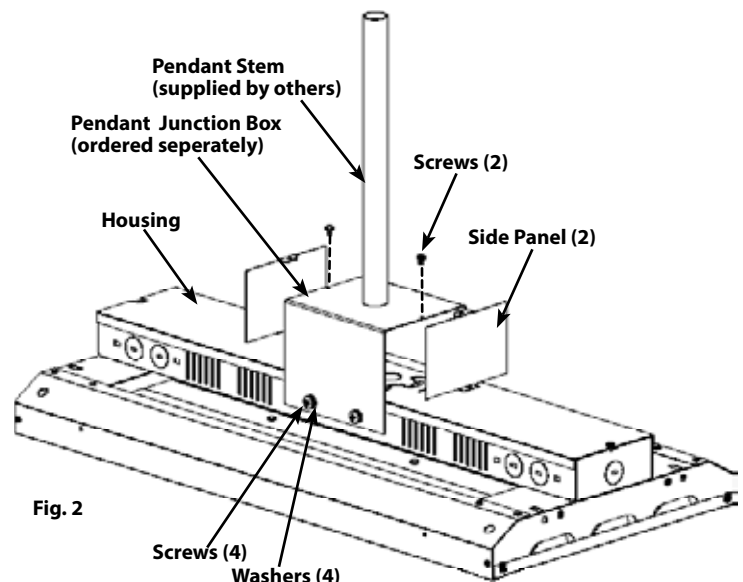

Fig. 2
2. Install **Pendant Junction Box (ordered separately)** to fixture by mounting **Pendant Junction Box** on fixture and securing with supplied **Screws (4)** and **Washers (4)** as shown (Fig. 2).
3. Feed wires through **Pendant Stem** and into **Pendant Junction Box**. Wire the housing leads to supply wires using UL listed wire connectors according to NEC and local codes in the **Pendant Junction Box**. Push all wires back into **Pendant Junction Box**, install **Side Panels (2)** with supplied **Screws (2)**. Be careful not to pinch wires.